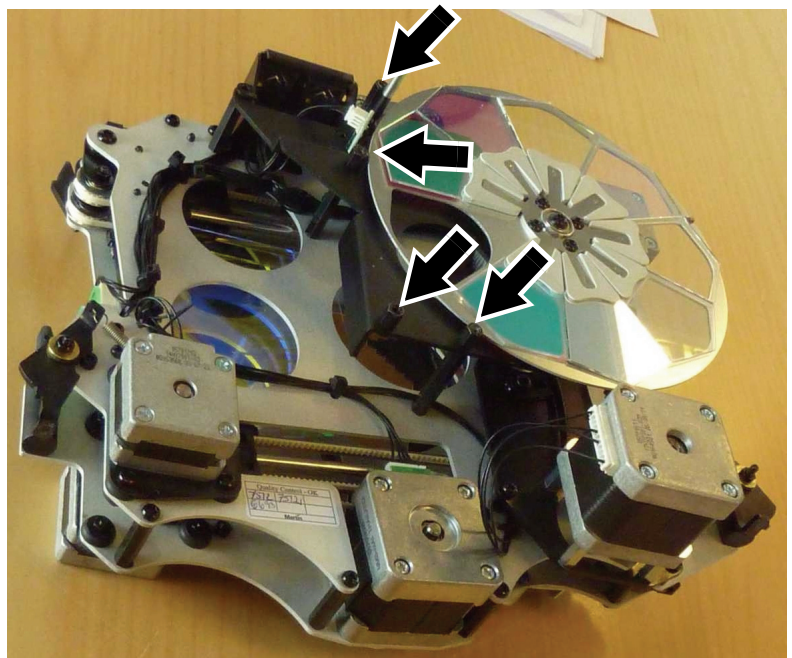

Figure 6
7. See Figure 6. Remove the four pillars (arrowed) from the inner aperture plate.